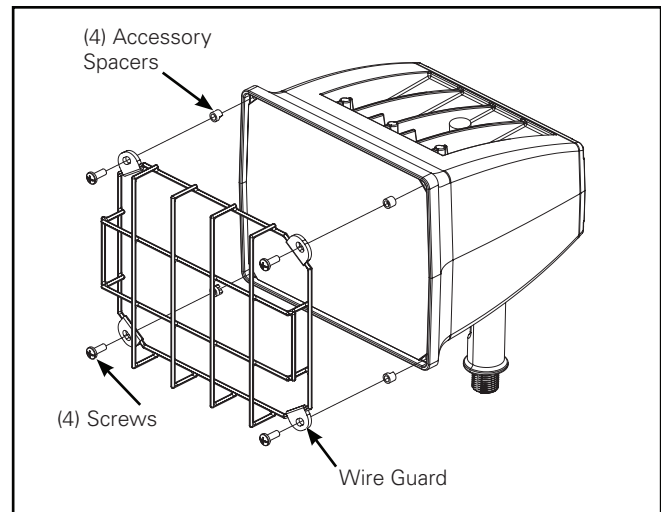

Figure 7.
4. Align wire guard on top of accessory spacers matching the (4) existing holes. (Figure 7)
5. Add (4) 10-24 Philips head screws to the face of the fixture to tighten the wire guard.